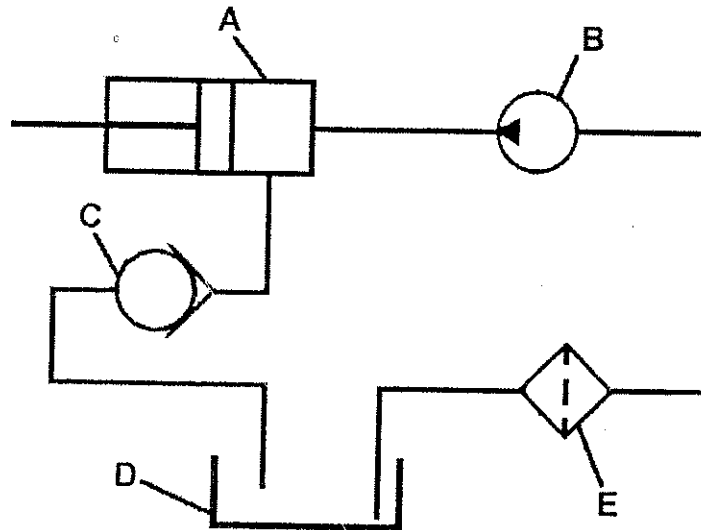

FIGURE 4
- 5.2 Refer to FIGURE 4 of the line diagram of a basic hydraulic system and answer the following question.